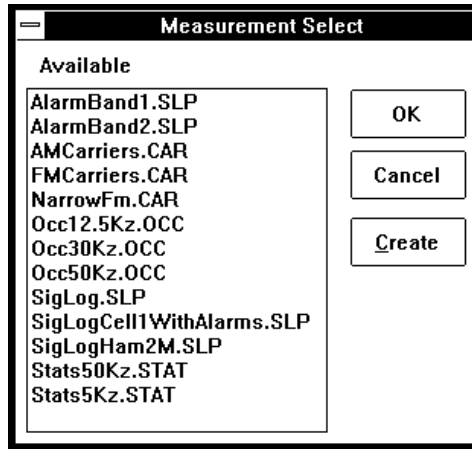

Figure 6-27: Measurement Select Dialog Box
3. Click on **M**easure to open the **M**easurement Select Dialog Box (Figure 6-27).